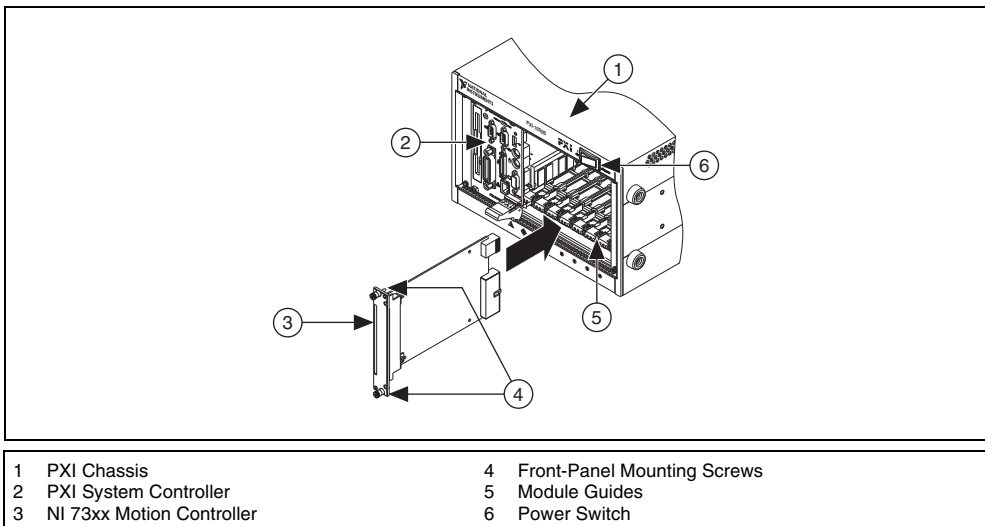

Figure 1. Installing an NI 73xx Motion Controller in a PXI Chassis
4. Insert the NI 73xx motion controller into the PXI slot as shown in Figure 1. Use the injector/ejector handle to fully secure the device into place.